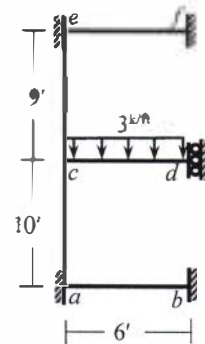

Fig.3
- Use stiffness method (neglect axial deformations) to calculate rotation of joint *c* and displacement of joint *d* of the frame *abcdef* loaded as shown in Fig.3 [Given: $EI = 40 \times 10^3$ k-ft²].